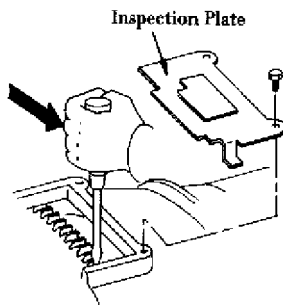

Fig. 3: Removing Inspection Plate From Converter Housing
- 2) Remove the inspection plate from the converter housing. (Fig. 3).